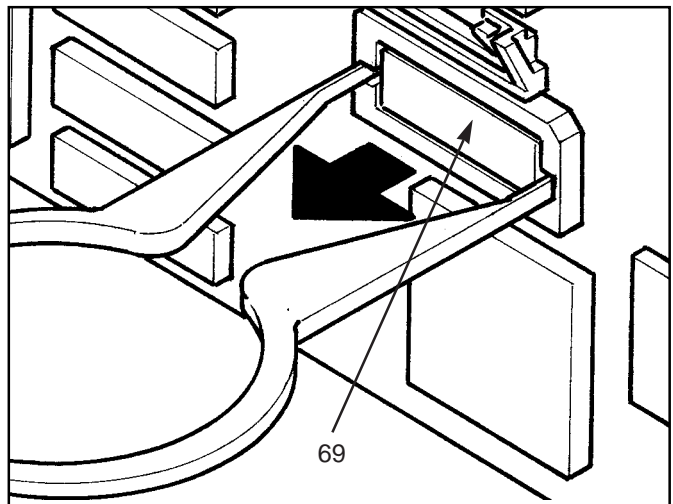

Figure 19a
**NOTE:** To remove the video memory upgrade, use a chip-pulling device. See Figure 19a.